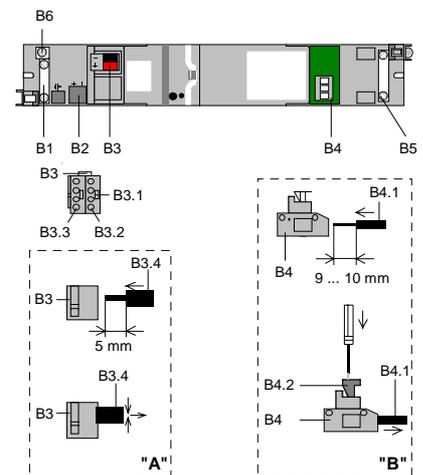

Figure 3: Connections
#### Slipping off bus connection blocks (Figure 3)
#### Slipping on bus connection blocks (Figure 3)
#### Connecting bus cables (Figure 3 "A")
- The sheathing of the bus cable must be attached to the casing of the built-in device via the conductor fixing (B1). When using a cable with shielding, it can be screwed onto the terminal (B6, Figure 3).
The recess (B2) can be used to accommodate an overvoltage protection which is connected to the bus connection block in parallel with the bus line (Figure 3).
#### Disconnecting bus cables (Figure 3 "A")
#### Connecting receiver cable (Figure 3 "B")
- The sheathing of the receiver cable must be attached to the casing of the built-in device via the cable clamp (B5, Figure 3).
#### Disconnecting receiver cable (Figure 3 "B")